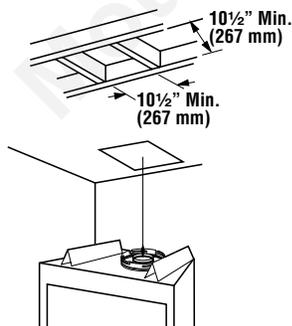

Figure 18
A. Frame ceiling opening - Use a plumb line from the ceiling above the appliance to locate center of the vertical run. Cut and/or frame an opening, 10 1/2" x 10 1/2" (267mm x 267mm) inside dimensions, about this center mark (**Figure 18**).